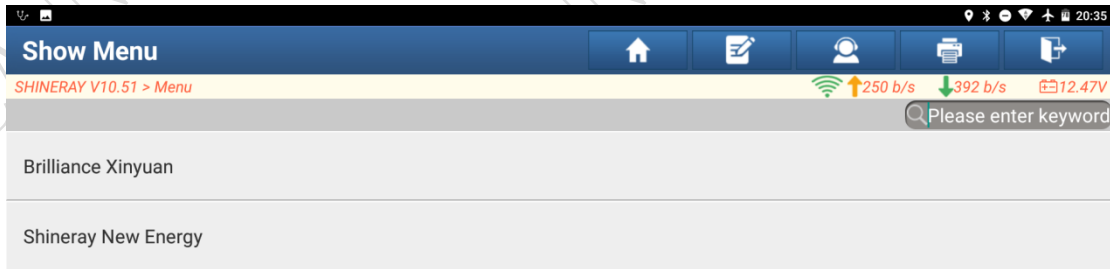

Figure 2
- 2. Choose [Brilliance Xinyuan] to enter the model selection interface, as shown in Figure 2.